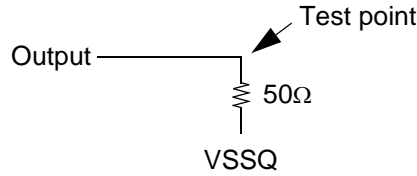

Figure 2 : Pullup slew rate test load
- For each of the terms above, if not already an integer, round to the next highest integer. Example: For DDR266B at CL=2.5 and tCK=7.5ns  $tDAL = (15 \text{ ns} / 7.5 \text{ ns}) + (20 \text{ ns} / 7.5 \text{ ns}) = (2) + (3) \text{ } tDAL = 5 \text{ clocks}$
a. Pullup slew rate is characterized under the test conditions as shown in Figure 2.